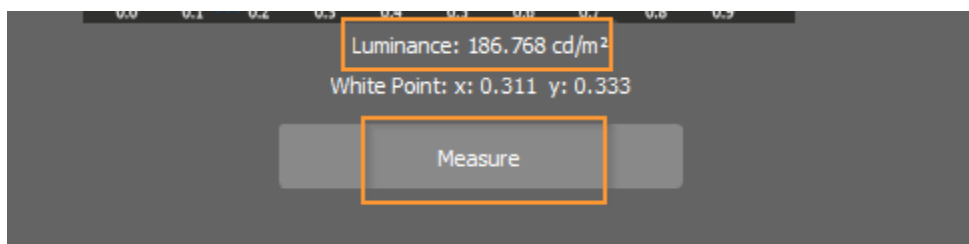

Figure 6 Position probe and click Measure
6. Click on the "Measure" button and record the measured luminance (Figure 6). Adjust the slider in the Brightness Profiler program until the luminance reach the target specified.